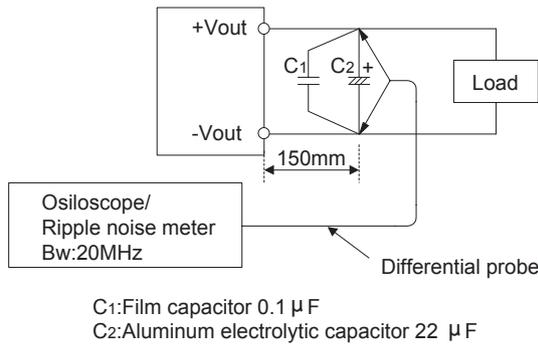

Fig.1.1 Measuring method of Ripple and Ripple Noise
■ Output ripple noise may be influenced by measurement environment, measuring method fig 1.1 is recommended.